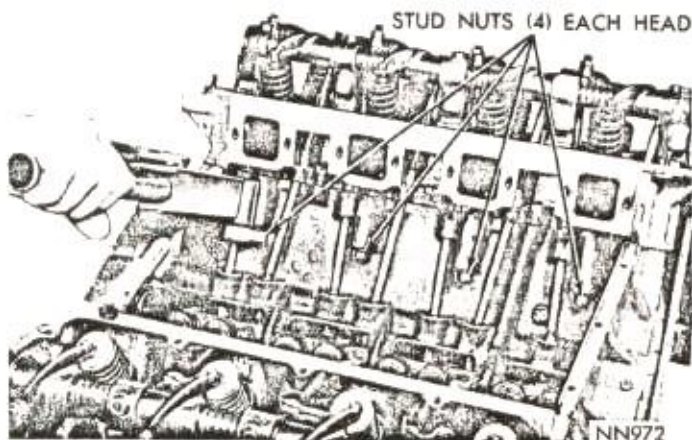
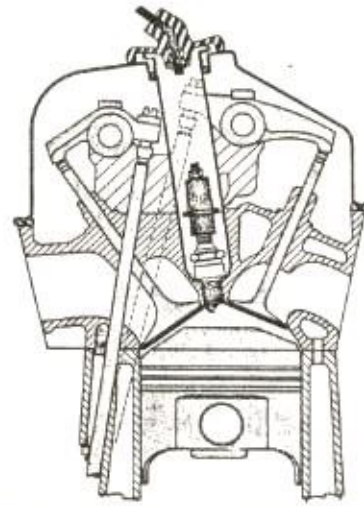

Fig. 3—Removing or Installing Cylinder Head Stud Nuts
Fig. 4—Hemi-426 Engine Combustion Chamber—Cross Section
in place by 13 bolts (Fig. 2) and 4 studs, nuts and washers (Fig. 3). The stud nuts are tightened from inside of the tappet chamber. Aluminum spark plug tubes (shown in cross section in Figure 4) serve as spark plug gaskets. The tubes project through the cylinder head cover and are sealed against oil leaks.
- (8) Remove the four stud nuts, (1/8 inch hexagon) from cylinder head studs inside of tappet chamber (Fig. 3).